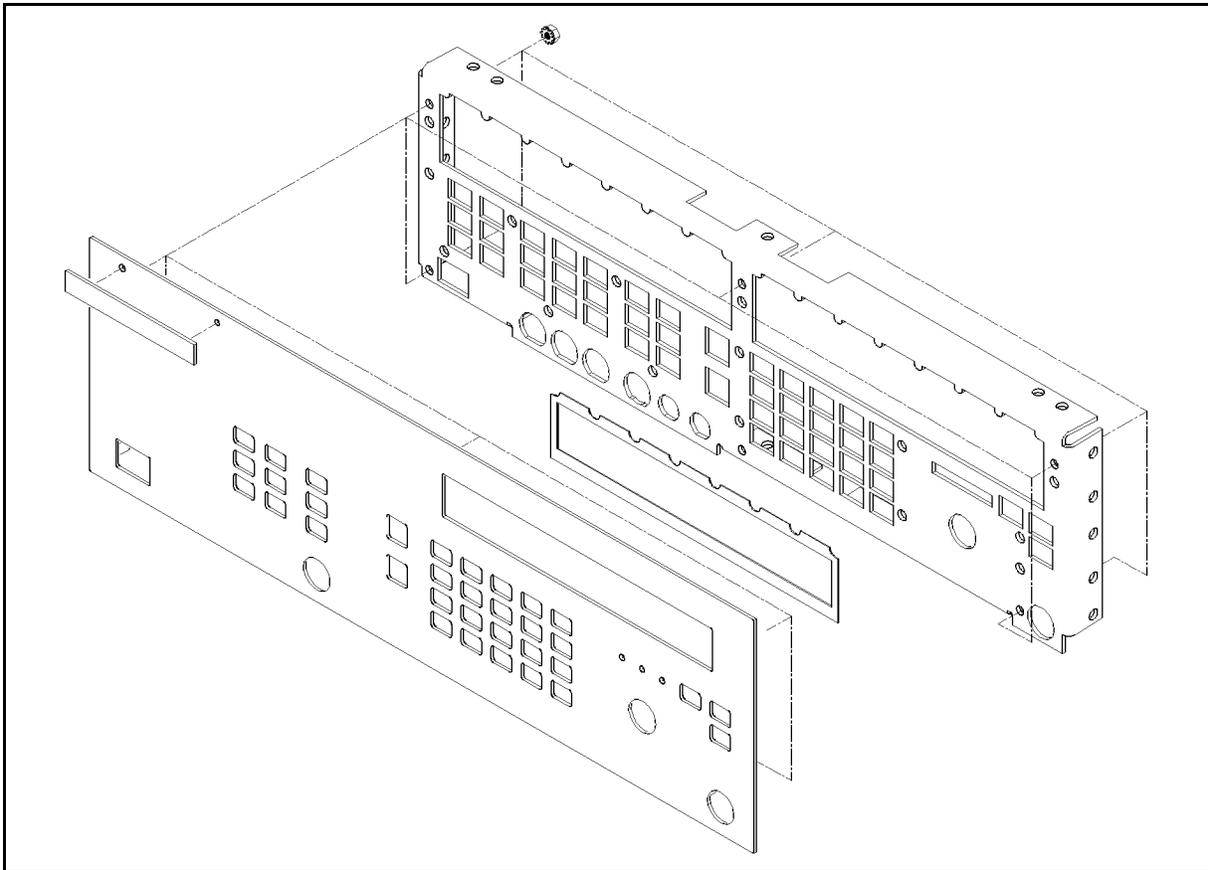

Figure 5-36. Dress Panel Removal
1. Remove the five hex nuts from the inside of the front subpanel and dress panel. (See Figure 5-36.)